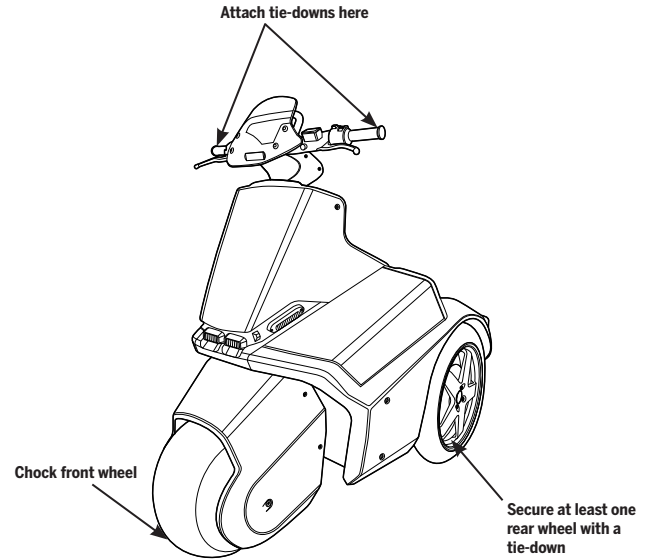

Figure 46: Securing the SE-3 Patroller for Transport
4. Attach tie-downs to each end of the handlebars and to at least one rear wheel (**Figure 46**).